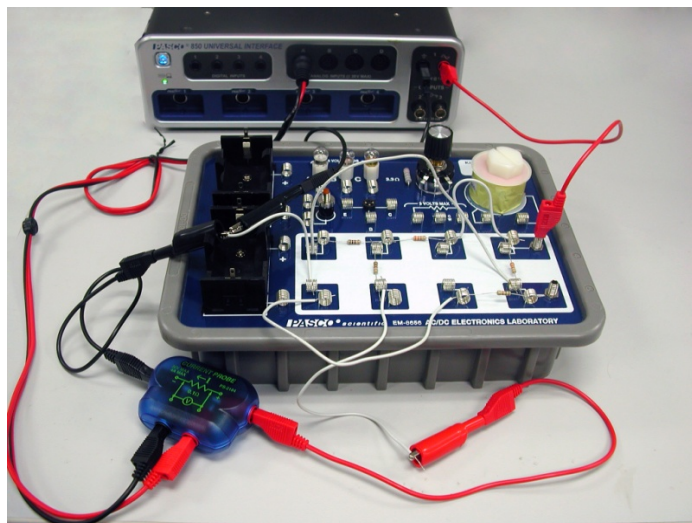

Figure 8: Hooking Up the Ammeter
6. Attach the ammeter by clipping the red end of the ammeter to the white wire attached to the bottom of the $100\ \Omega$ resistor (R_3) as shown in Figure 8. The black side of the ammeter attaches to the white wire coming from the lower left spring. The black wire from Output 1 on the 850 also attaches to this point (ground).